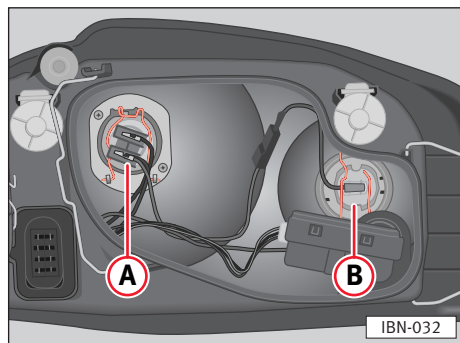

Fig. 149
- Pull out plug of the bulb cable ⇒ **fig. 149 ⑧**.
- Place plastic cover and place retaining rods **②**.